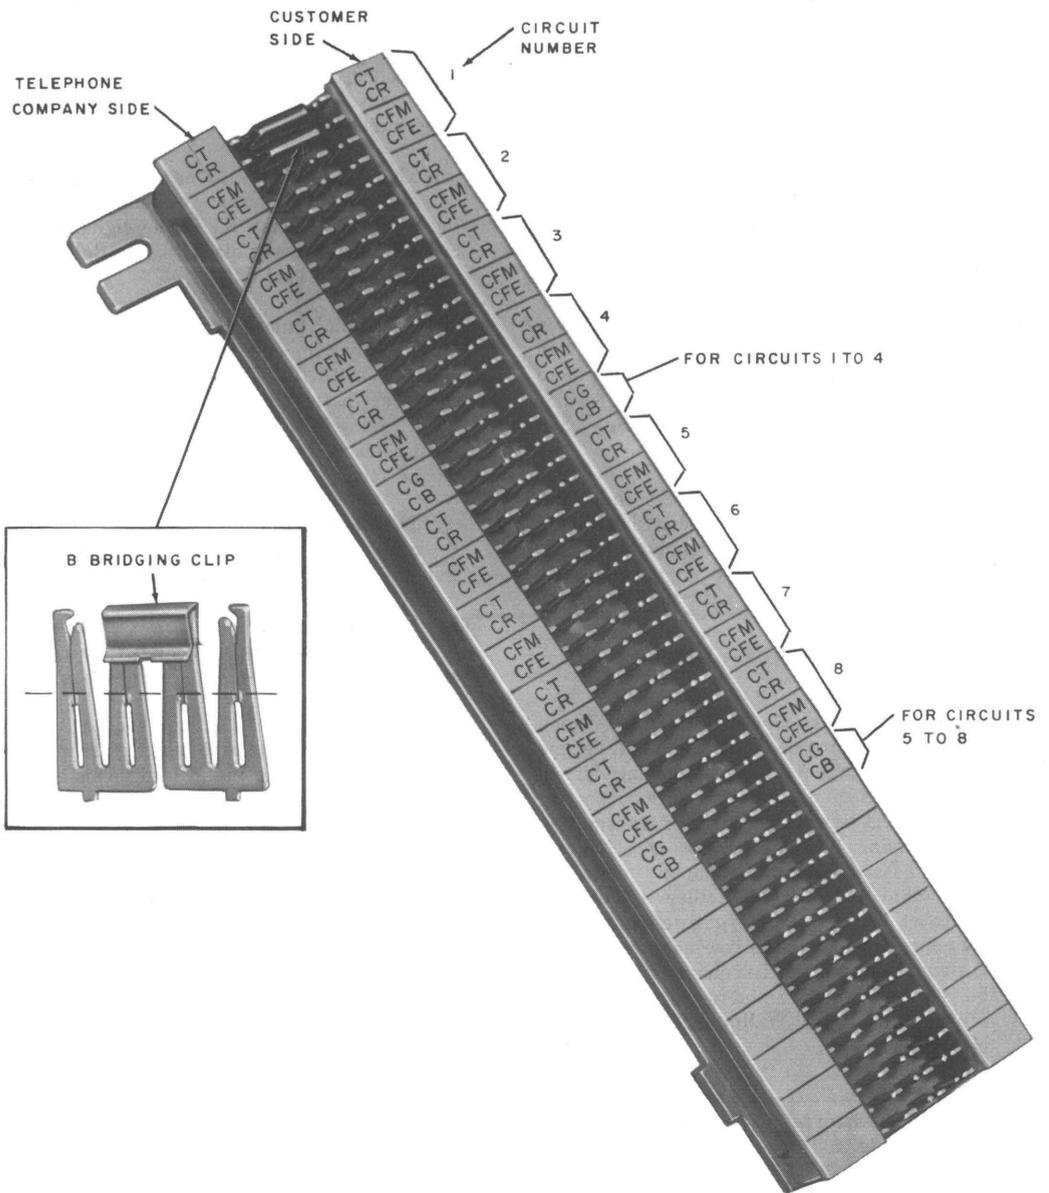

Fig. 3—Typical Interface Connecting Block
- Block, Connecting, 66M1-50 (Fig. 3)
3.02 Use the "D" inside wiring cable or equivalent to terminate the leads associated with the CP equipment on the interface connecting block. Stencil trunk number and lead designations on interface connecting block designation strip (see Fig. 3).